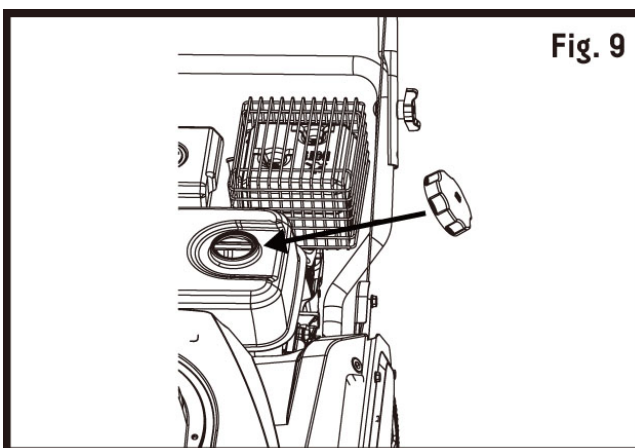

Fig. 9
1. Clean the area around the gas filler cap before removing the cap. Remove the warning tag, and check the fuel level (see fig.9).